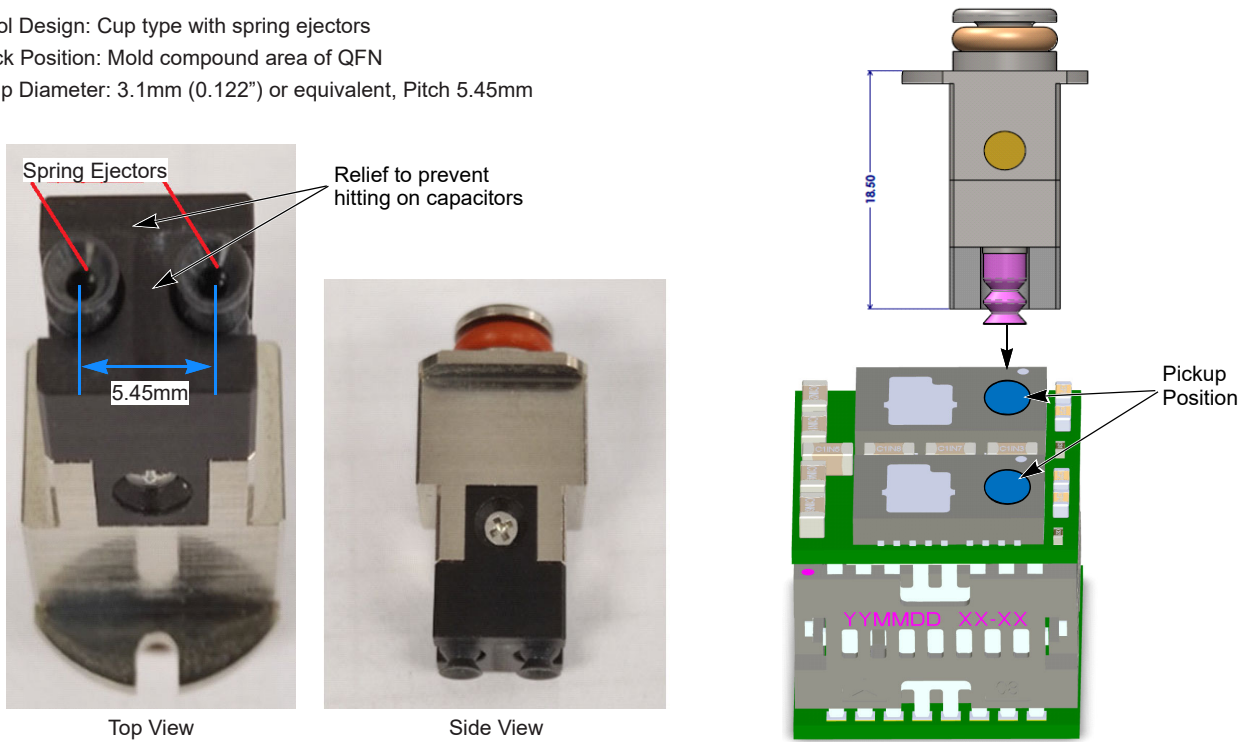
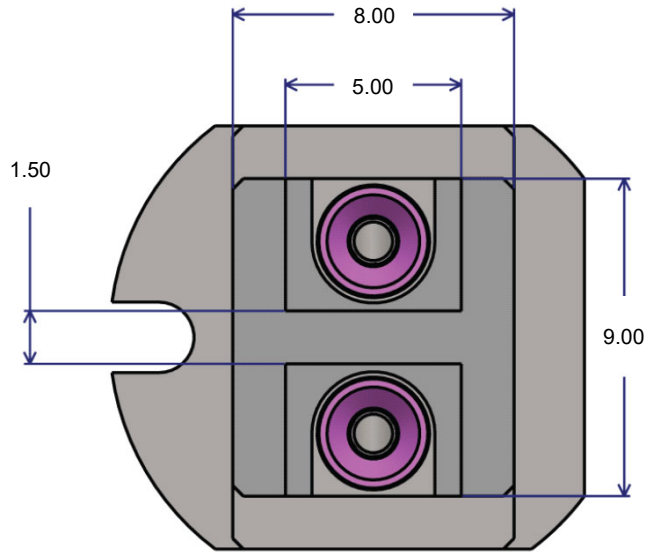

Figure 5. Suggested Power Tower Pickup Tool
Figure 9. Suggested Power Tower Pickup Tool – Bottom View
- Use suggested Power Tower pick and place pickup tool. See Figure 5 through Figure 9.